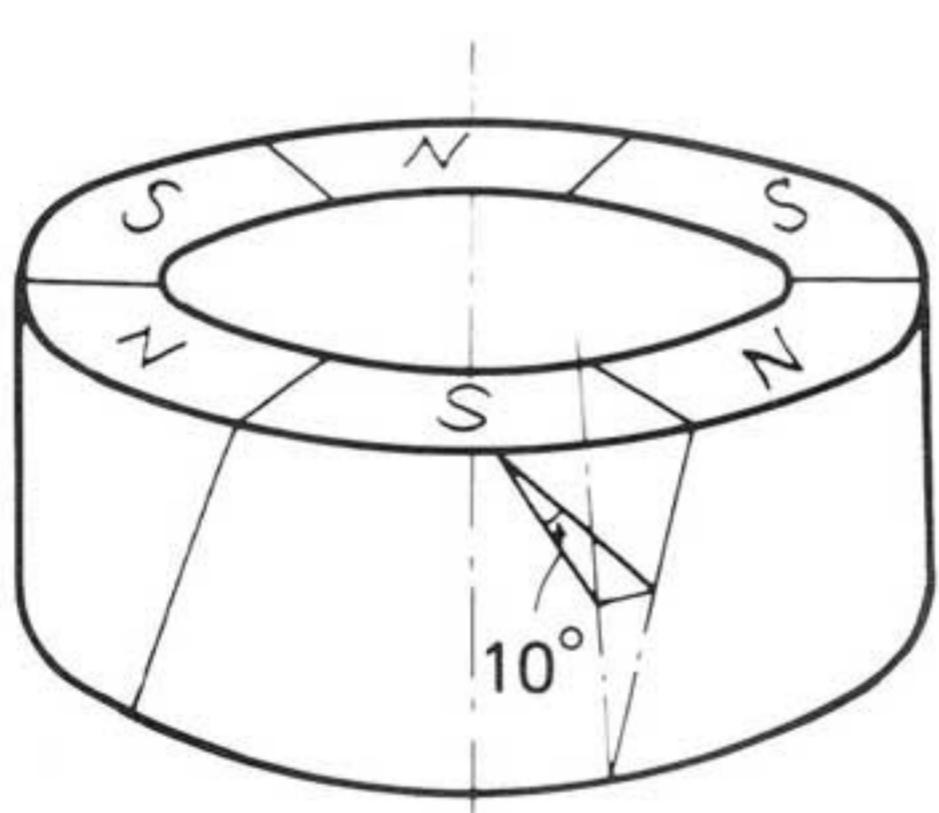

Fig. 13
5. The inner surface of the rotor magnet possesses 6 magnetic poles. As shown in Fig.13, these are tilted by 22.0° relative to the vertical axis.